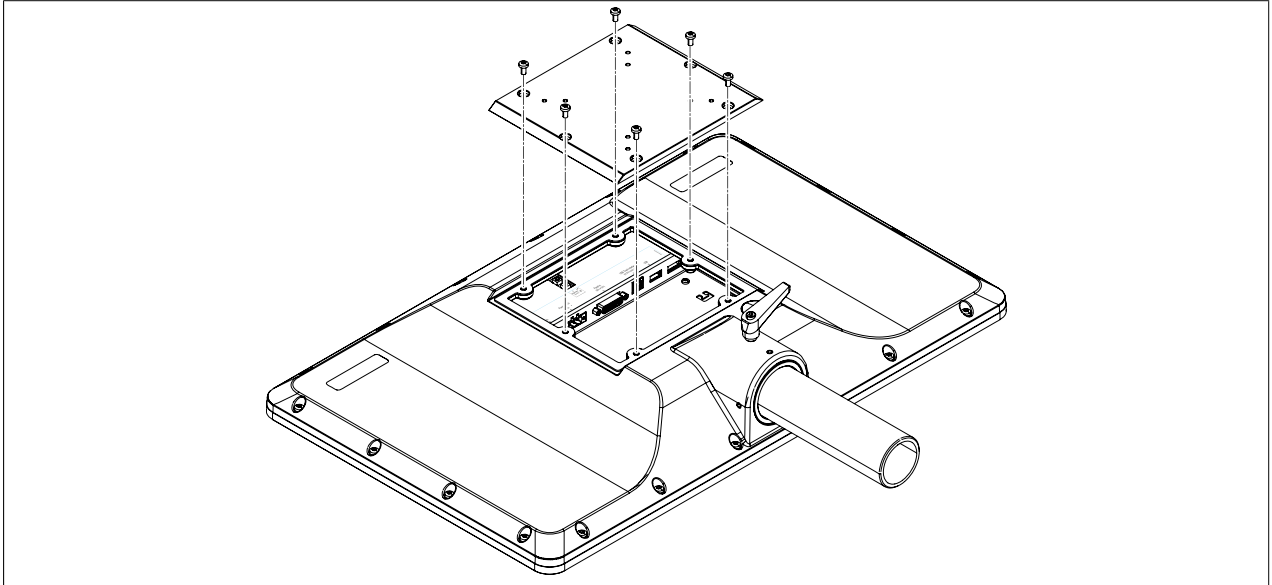

Figure 24: Removing the interface cover
1. Remove the interface cover (see Figure 24 "Removing the interface cover" on page 36).